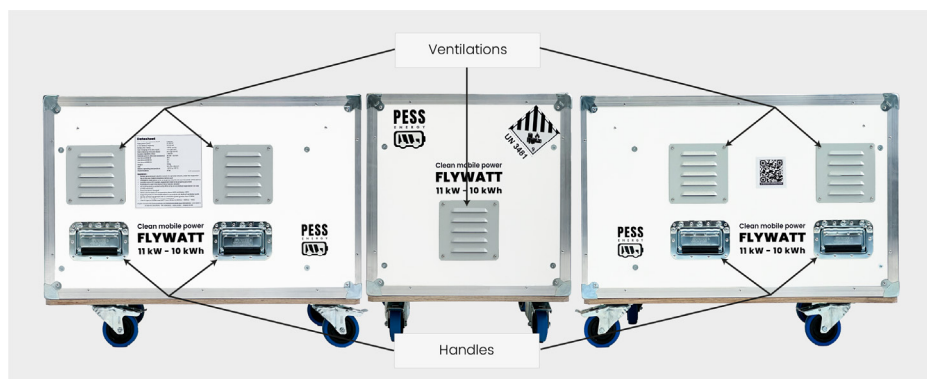

Figure 3 : Sides and back of the device
- Make sure that the air intakes (*see III.3. Figure 3*) of the device are not obstructed.